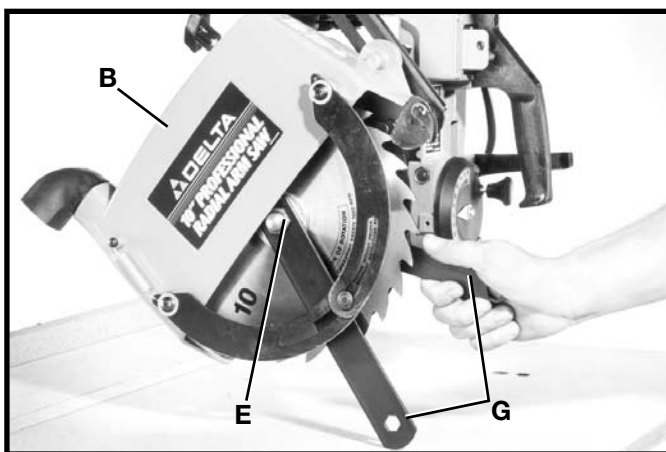

Fig. 47
6. Rotate blade guard (B) Fig. 47, to the rear and tighten arbor nut (E) using two wrenches (G) supplied.